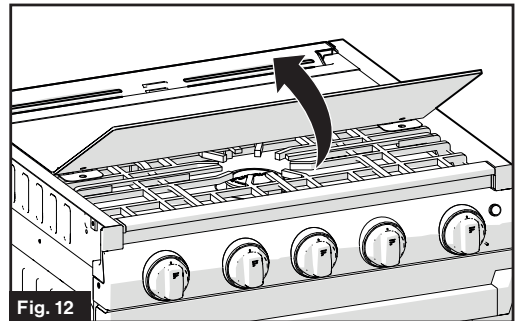

Fig. 12
1. Lift to open the cooktop glass cover. (Fig. 12) The top glass cover must be kept open when lighting and using the cooktop.